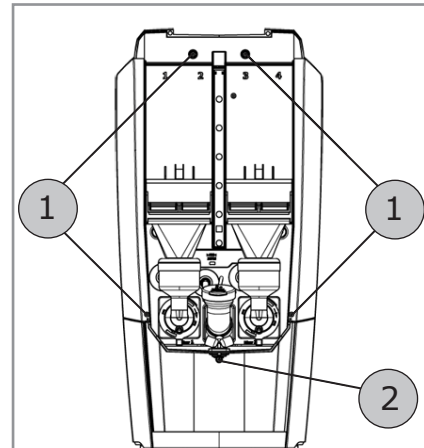

Figure 27
2. Remove the screws (1) from the front side of the machine (figure 27).
2. Remove the screw (2) from the front side of the machine (figure 27).